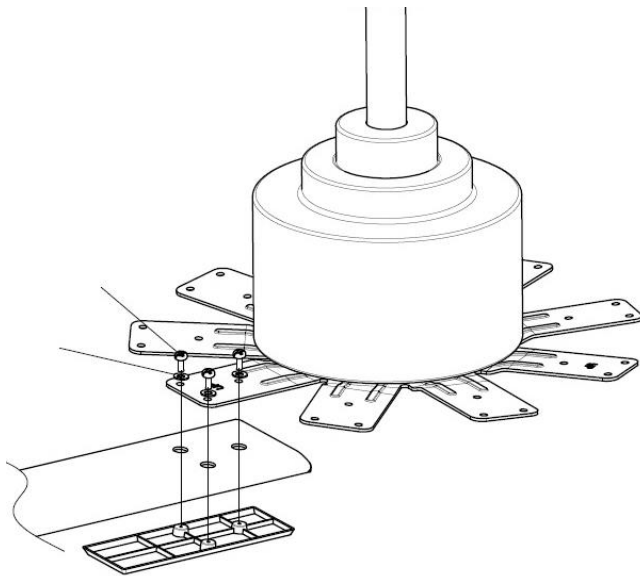

Fig. 10
- Insert the blade screws through the blade assembly in the following order - blade holder, blade and blade bracket kit. Then secure the blade to the blade holder by tightening the 3 screws. Fig. 10